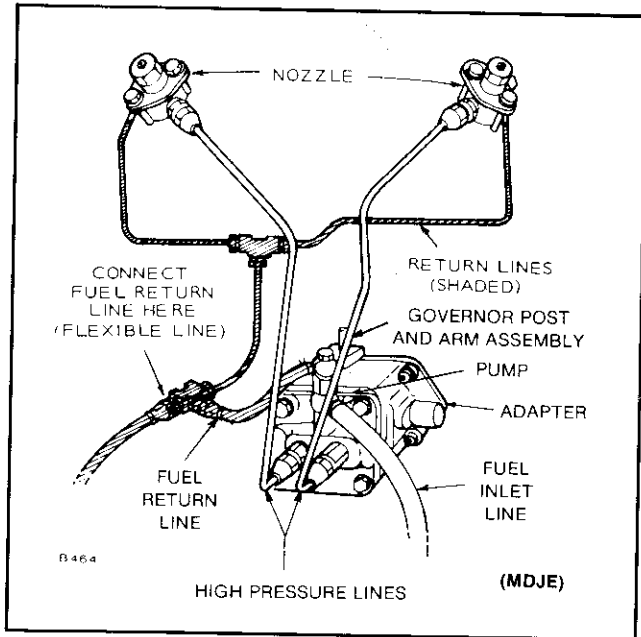

FIGURE 3-43. FUEL LINES TO INJECTORS
The Bryce or Kiki fuel injection system (Figure 3-43) is located near the center on the left side of the engine crankcase on MDJE Spec AB or later engines. The pump is mounted on an adapter casting and two lobes of the cam shaft operate the pump plungers, one plunger and cam lobe for each cylinder. The fuel is pumped at high pressure by the plungers through the delivery valves to the injection nozzles.
2. Remove fuel inlet and return line, Figure 3-43.